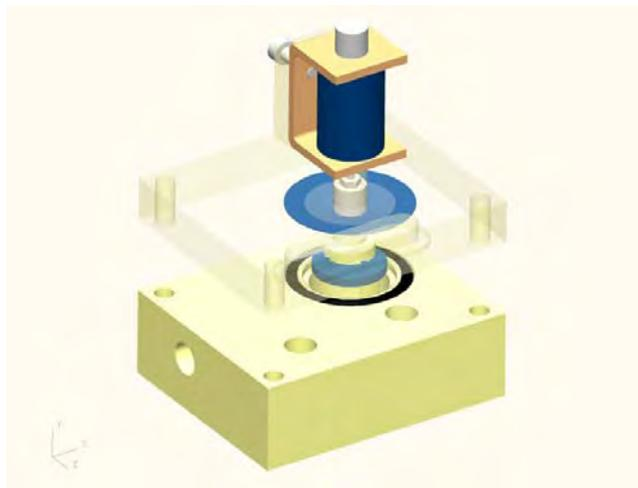

Figure 4-17
A Safety Valve (SV) is incorporated in the safety valve block in order to provide the patient with an open breathing path from ambient air in the event of an emergency. The safety valve is comprised of a sealing disc and corresponding sealing surface which functions like a check valve. A solenoid valve is also included in the system, which under normal operating conditions is energized. In this condition the valve's plunger is extended holding the sealing disc hard against its seat and closing off the ambient port. In the event of a critical error condition (e.g. Technical fault) the solenoid is de-energized retracting the plunger away from the sealing disc. Under these conditions the sealing disc will remain loosely in position on its sealing surface and allowing it to function as an inspiratory check valve. Any inspiratory effort on the part of the patient will result in the sealing disc being displaced and inspiratory flow being drawn into the system from atmosphere. As the patient begins to exhale the sealing disc is forced against its sealing surface thus closing off the ambient port. Patient exhalation under safety valve open conditions is achieved through the open expiratory system (Figure 4-17).